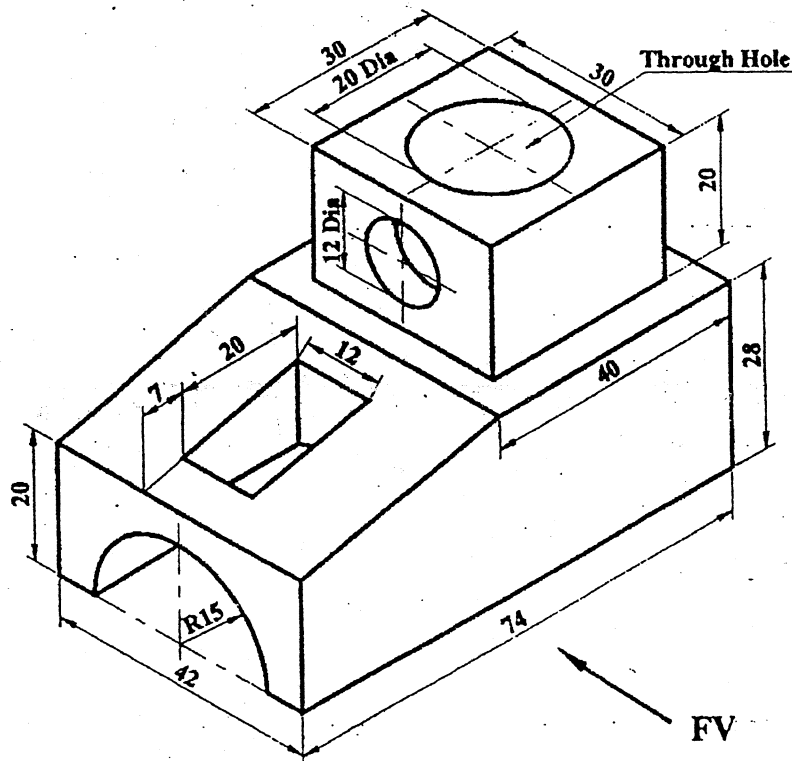

Figure P.3
3. Pictorial view of an object is shown in Figure P.3. Draw (with dimension) its (a) sectional front view, (b) side view and (c) top view. [16]